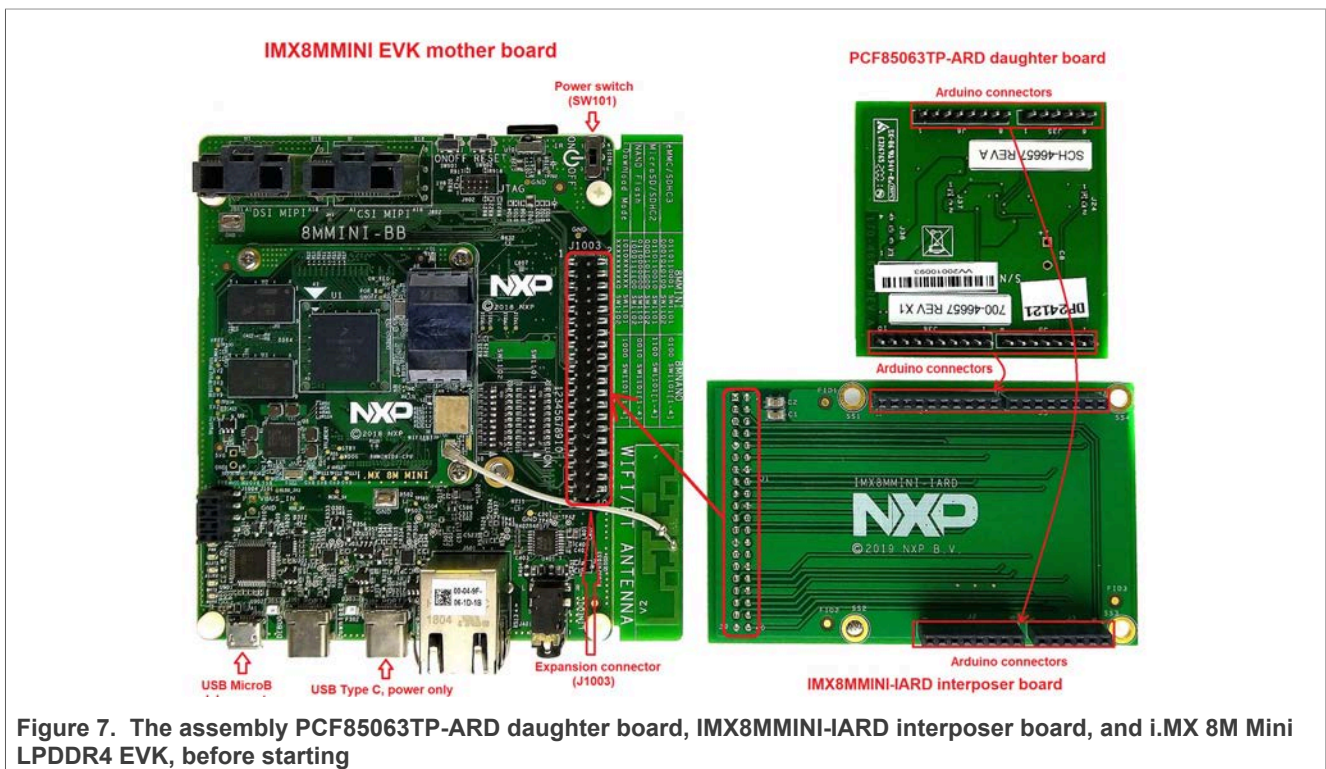
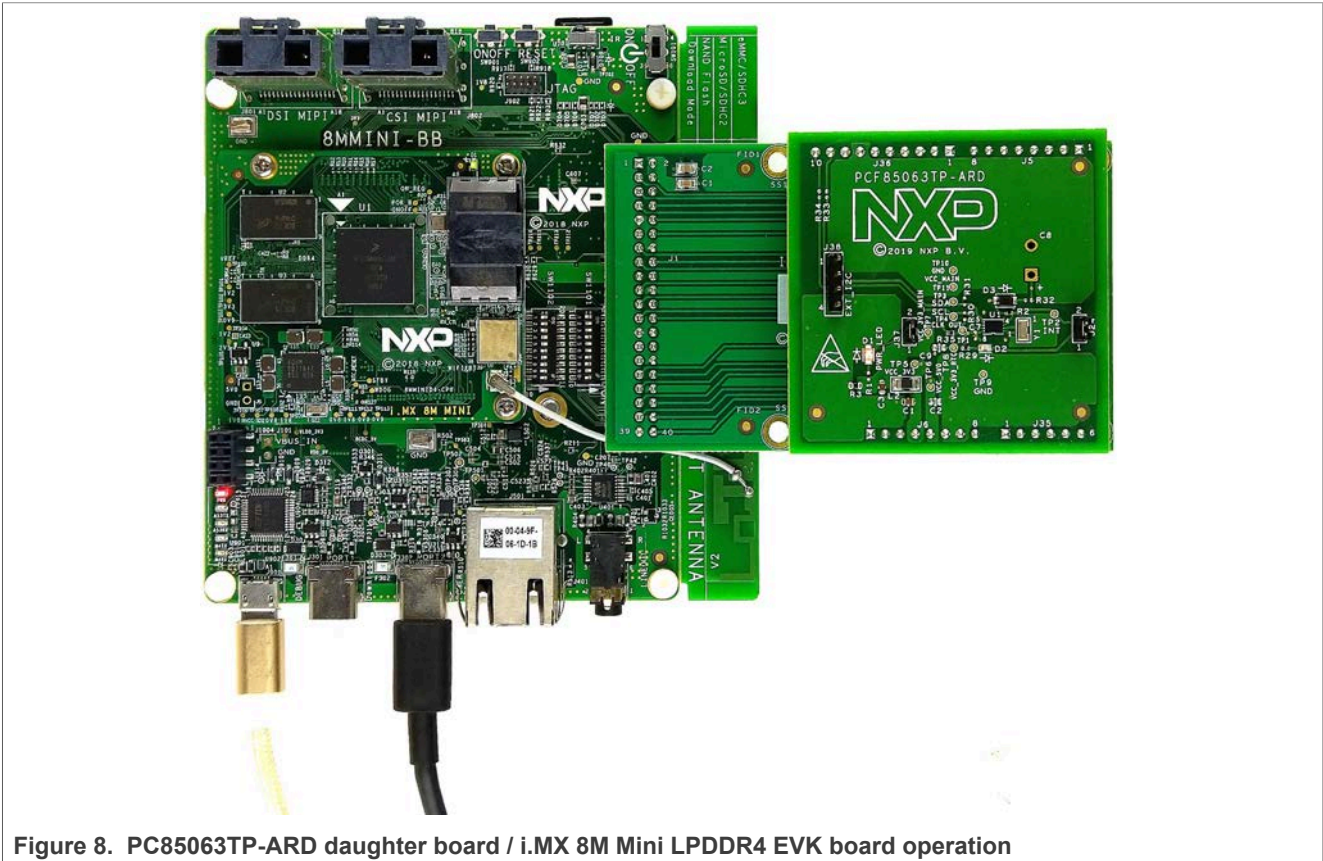

Figure 7. The assembly PCF85063TP-ARD daughter board, IMX8MMINI-IARD interposer board, and i.MX 8M Mini LPDDR4 EVK, before starting
Figure 8. PCF85063TP-ARD daughter board / i.MX 8M Mini LPDDR4 EVK board operation
To operate the setup, along with the EVK and the daughter board, a third board must be included in the setup assembly. Figure 7 shows the necessary boards and how these boards are connected. The configuration consists of:
To power-up the EVK, a USB-C type cable connected to PORT 2 of the EVK is used. The power switch SW101 on the EVK board must be set to ON position to power-up the setup. Data communication is achieved by routing a separate USB (Micro-B type) cable from a USB port on the PC to debug port (J901) on the EVK (see Figure 7 and Figure 8).
2. Attach IMXMMINI-IARD connector plug J1 (located on the bottom of the board) into J1003 expansion board located on the top side of i.MX 8M Mini LPDDR4 EVK (see Figure 8);